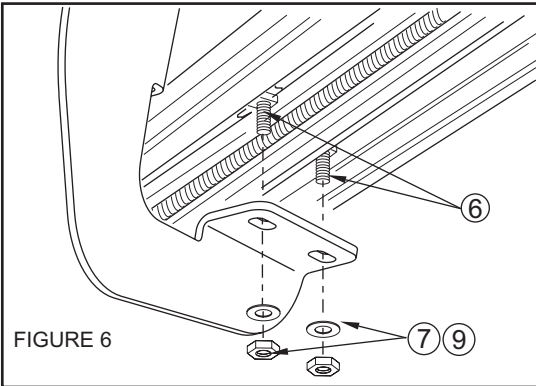

FIGURE 6
- STEP 5. Attach board to brackets as shown. Make sure board and brackets are properly aligned and tighten fasteners. Recommended torque values are 10 FT.LBS. for 5/16" square head fasteners and 23 FT.LBS. for 8mm fasteners. **SEE FIGURE 6.**